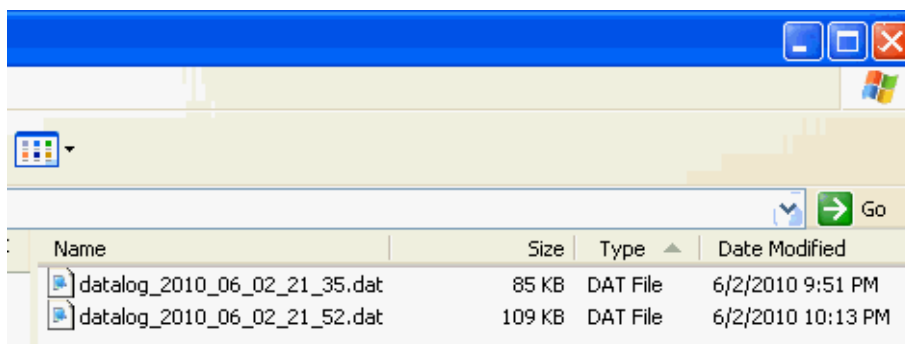

Figure 41: Automatically Generated Datalog Files
- ✓ Click the *Start* button to start logging. *Logging to File...* is illuminated on the left side of the Status Bar (see Figure 41).